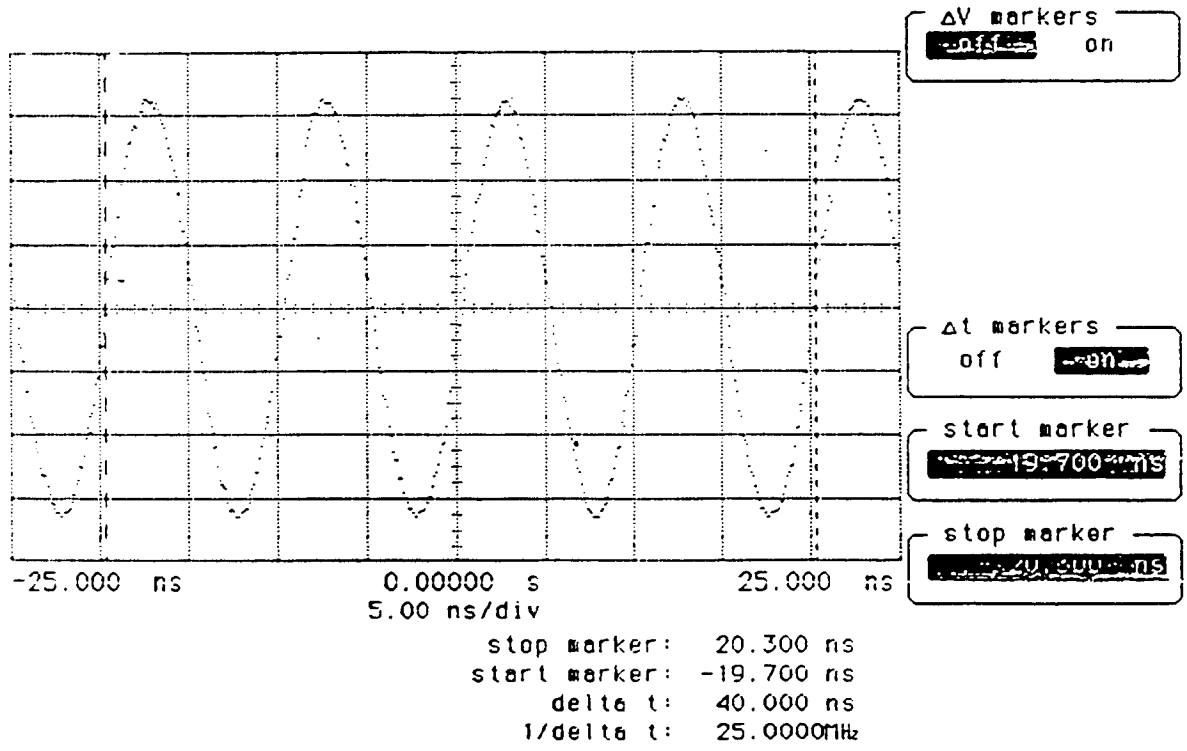

Figure 3-2. Delta-t Accuracy Test Result
10. Set **start marker** to mid-screen crossover point on left side of displayed signal as in figure 3-2.
11. Set **stop marker** to mid-screen crossover point on right side of displayed signal as in figure 3-2.